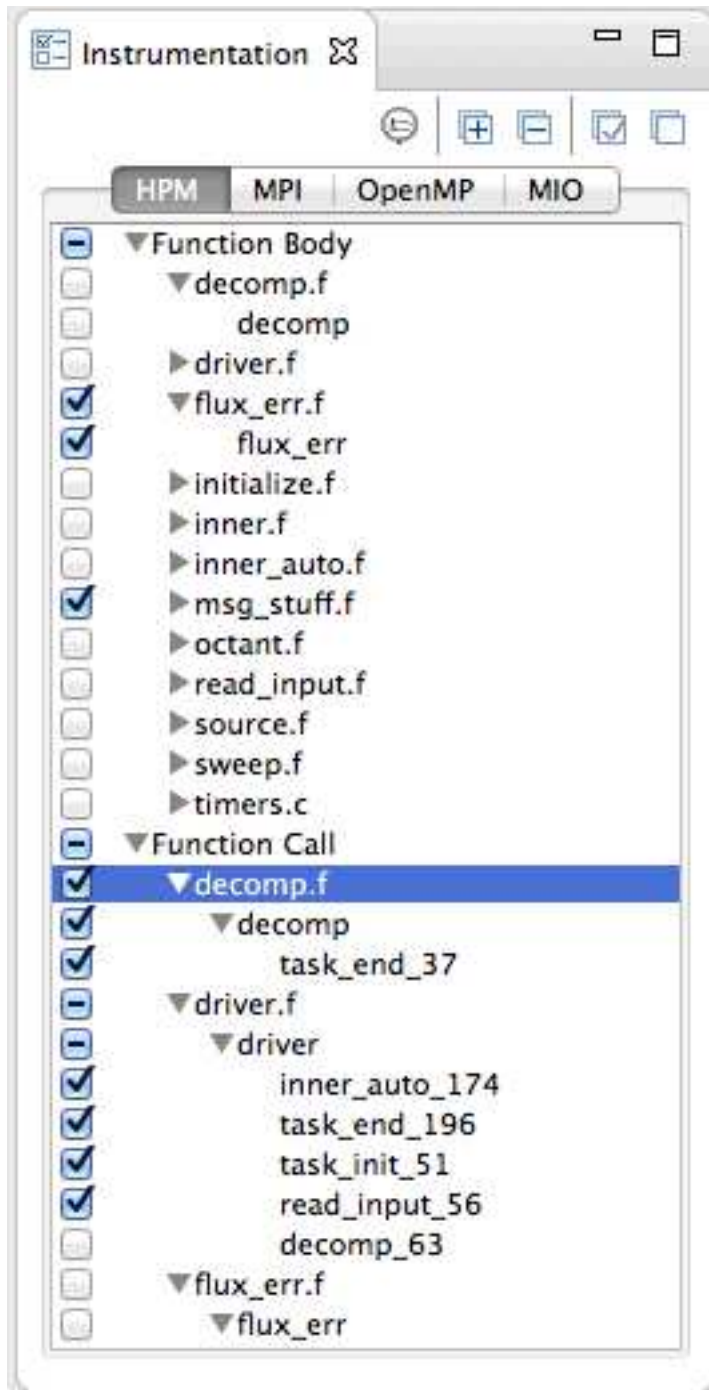

Figure 16. HPM instrumentation tab
Figure 16 shows the HPM tab with a number of instrumentation points selected. There are three classes of instrumentation points that can be shown in this tree:
3. The **HPM Region** section (not shown in Figure 16 on page 42) lists all the user-selected regions of code, such as a loop, that have been instrumented. The items in this section are labeled with the source file name and the starting and ending line numbers for the region.
Figure 16 on page 42 shows the **HPM** tab with a number of instrumentation points selected. There are three classes of instrumentation points that can be shown in this tree: